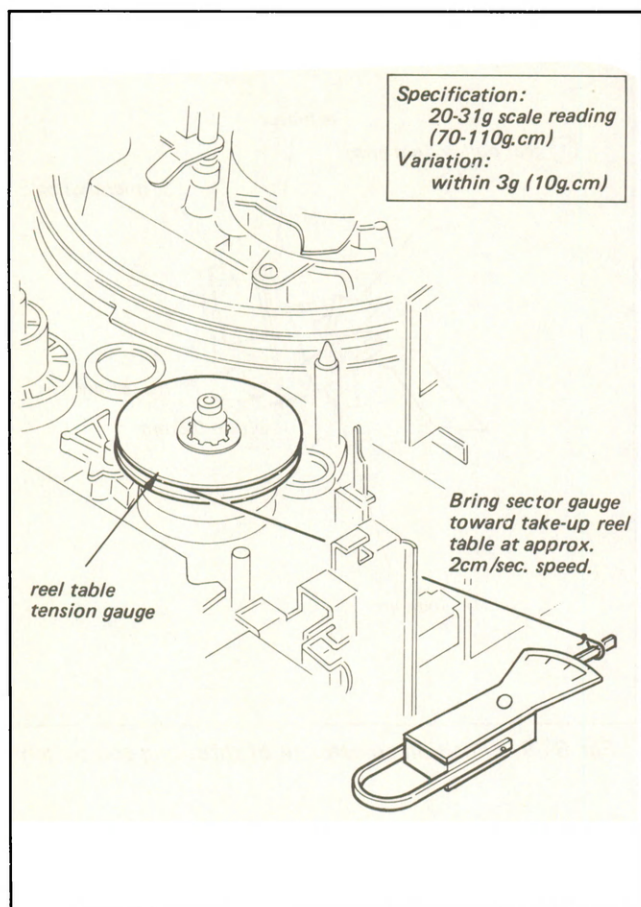

Fig. 3-40. Check of take-up torque
4. Attach the reel table tension gauge (Tool Kit Ref. No. J-4) on the take-up reel table as shown in Fig. 3-40.
7. Bring the sector type gauge toward the take-up reel table at a speed of approx. 2cm/sec. (8 inch/sec.) as shown in Fig. 3-40. Confirm that the gauge reading is within the specification. If not, replace the FWD limiter assembly and make the check again.